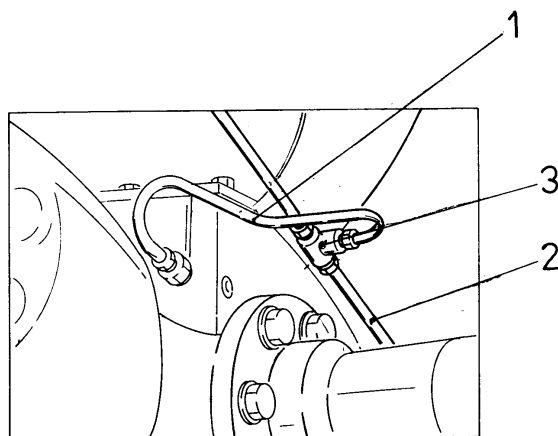

Fig. 5.8. Disconnecting Service Brake Piping
2. Disconnect brake lines (1 and 2) supplying both LH and RH brakes of both axles from tee connector (3, Fig. 5.8). Connect the lines and drain the fluid from the drive axle to a container.